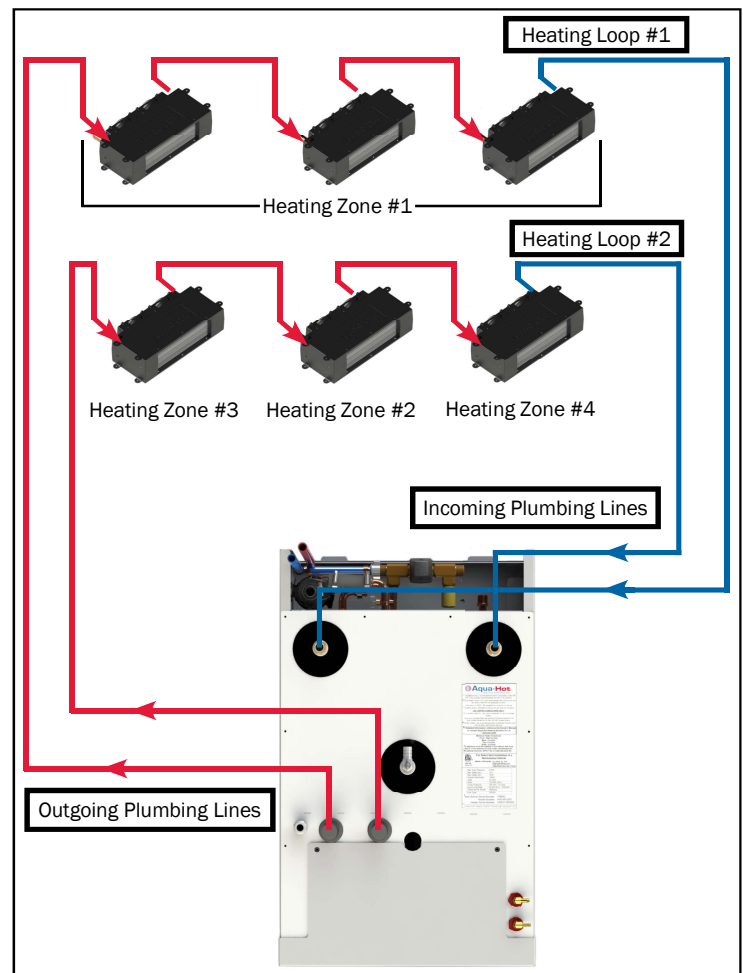

Figure 32
- See Figure 32 for reference.